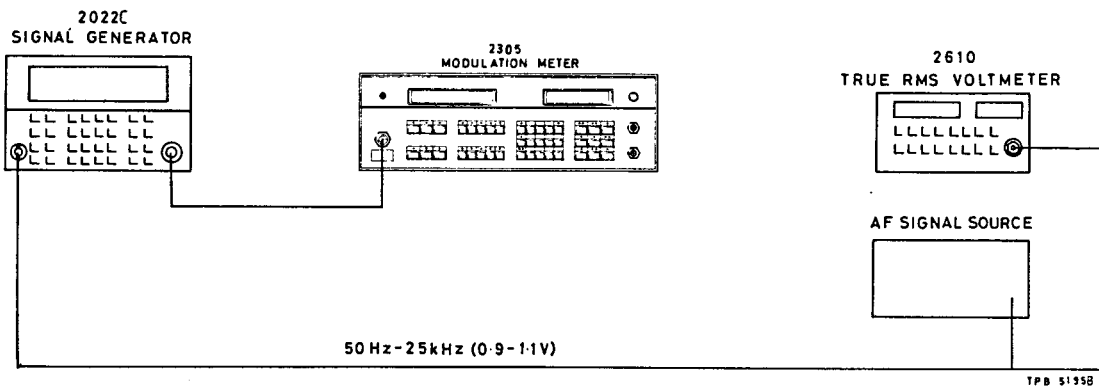

Fig. 5-8 Test gear arrangement to check external modulation
(1) Because AM, FM and  $\Phi$ M external modulation use a common circuit configuration, checking need only be carried out with one type of modulation input. Connect the test equipment as shown in Fig. 5-8 and set the 2022C controls as follows :
13. (1) Connect test equipment as shown in the Fig. 5-8. Maintain 2022C settings with the exception of the MOD ALC key. Press this to disable the ALC (adjacent LED should be extinguished).